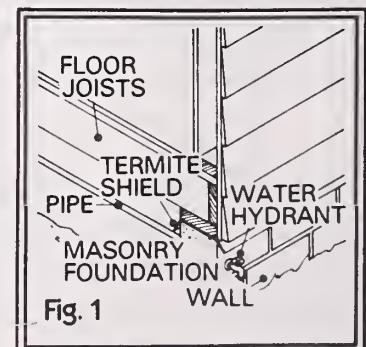

Fig. 1
- Along the surface of metal pipes (fig. 1).